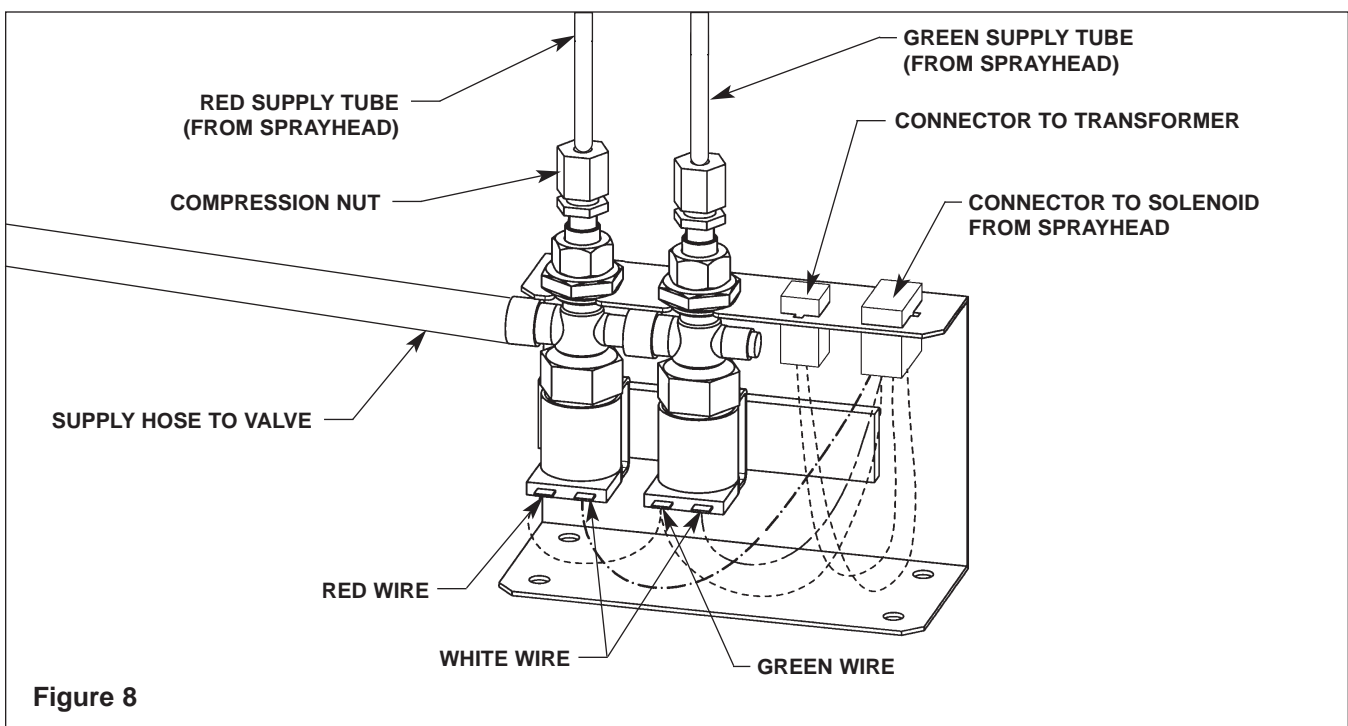

Figure 8
3. Insert the two sprayhead supply tubes into the two solenoid tube connectors by loosening the compression nut and firmly pushing the tubing into the tube connector until the tubes are fully seated, then re-tighten the compression nut (hand-tight and then two full turns with a wrench) (see Figure 8).